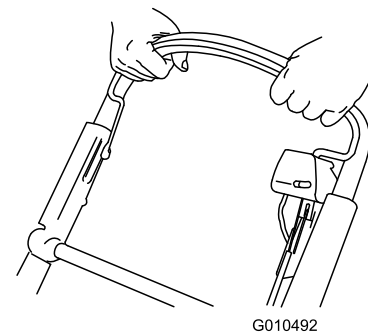

Figure 23
2. Hold the blade-control bar against the handle (Figure 23).